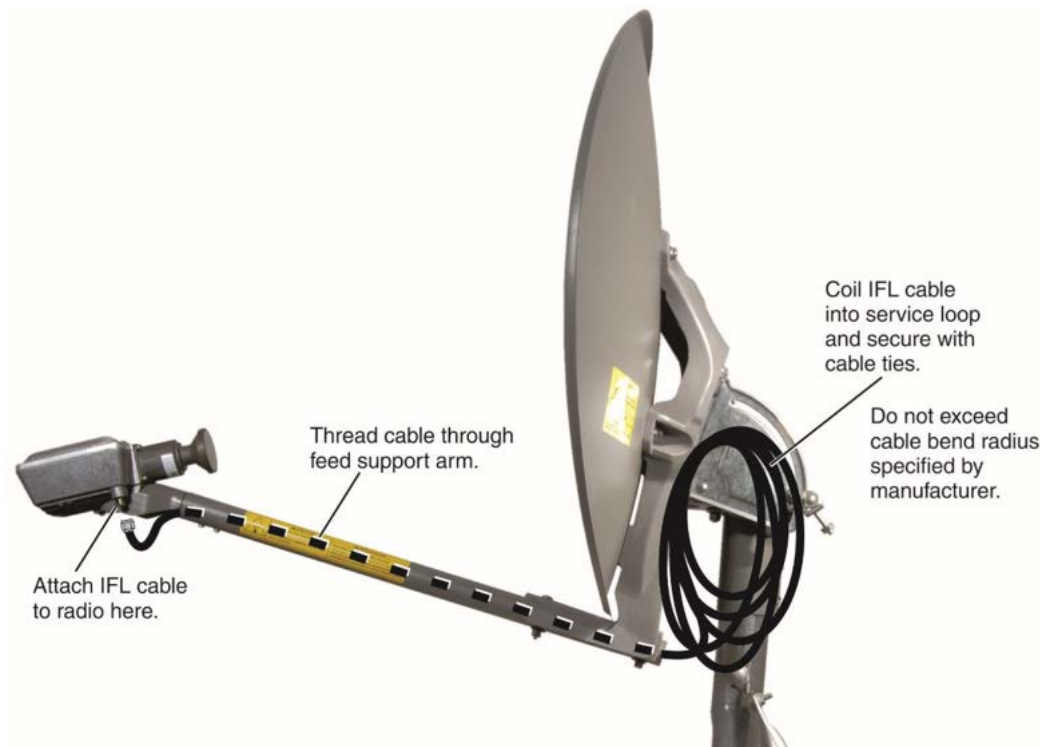

Figure 20: IFL cable configuration
1. Insert one end of the IFL cable into the feed support arm and thread it through the feed support arm until it comes out the opposite end, as shown in Figure 20.